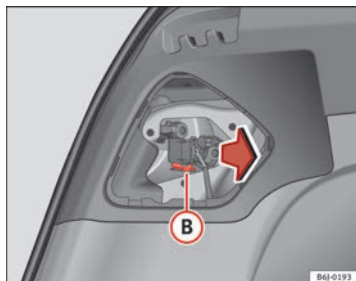

Fig. 170 Removing the bulb holder
- Remove the bulb holder by pressing the clip (B) ⇒ Fig. 170 and pulling outwards.